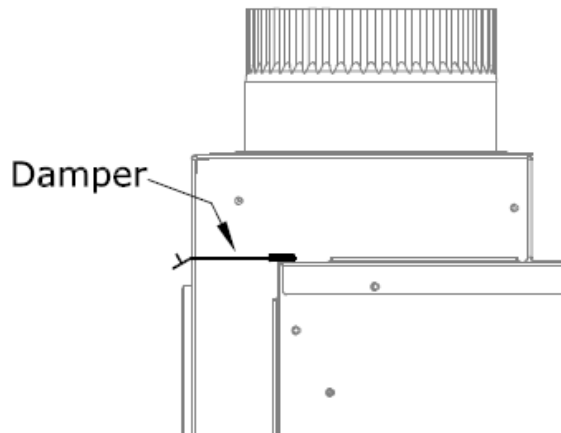

Figure 4.3 - HTK Air Chute Damper Resting Position
- **Note:** If you are using a HTK-EXT the damper stays in place. Make sure the damper rests on the unit and can move freely when airflow would be applied. The damper should lay flat on the fireplace as shown in Figure 4.3.